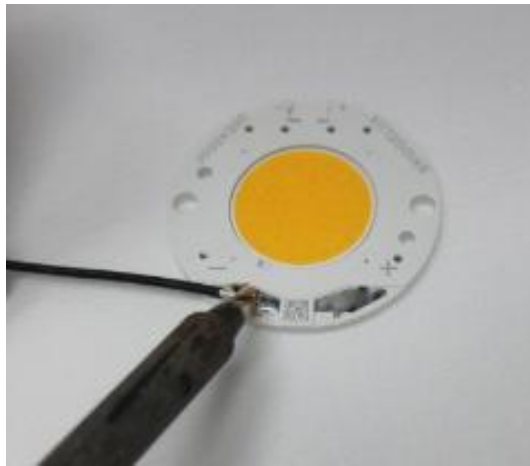

Figure 13: Soldering a pre-tinned wire to a pre-tinned solder pad
- C. Place the hot tip of the soldering iron on top of the tinned wire end. Bring the solder wire to the area just below the solder tip (see Figure 13). Only a small amount of solder is necessary to form a joint. After the solder melts and while holding the wire in place, quickly remove the soldering iron to prevent the formation of icicles. Signs of an overheated solder joint include